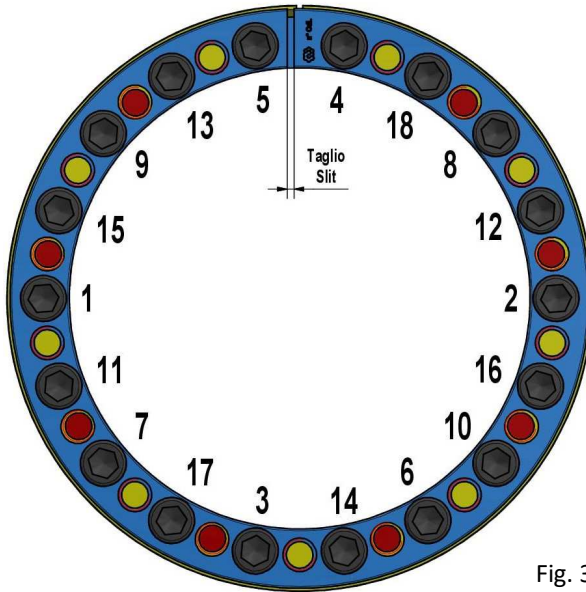

Fig. 3. Example of tightening pattern.
4. Tighten the screws by hand in a crosswise pattern, starting with a screw located at 90° approx. respect to slit in the front thrust ring (fig. 3), until fitting clearances with shaft and hub bore are bridged and connected components are slightly locked, while making sure that hub is aligned as required using a dial indicator. **Better centering of hub from the beginning of installation is essential for better centering when installation is completed.**
5. Use a torque wrench set approx. 5% higher than specified tightening torque (Ma), or reduced within admissible value. **Progressively tighten the screws in a crosswise pattern (fig. 3), using approx. ¼ turns for several passes until ¼ turns can no longer be achieved.** Start with a screw located at 90° approx. respect to slit; screws adjacent to slit shall be tightened in a row.